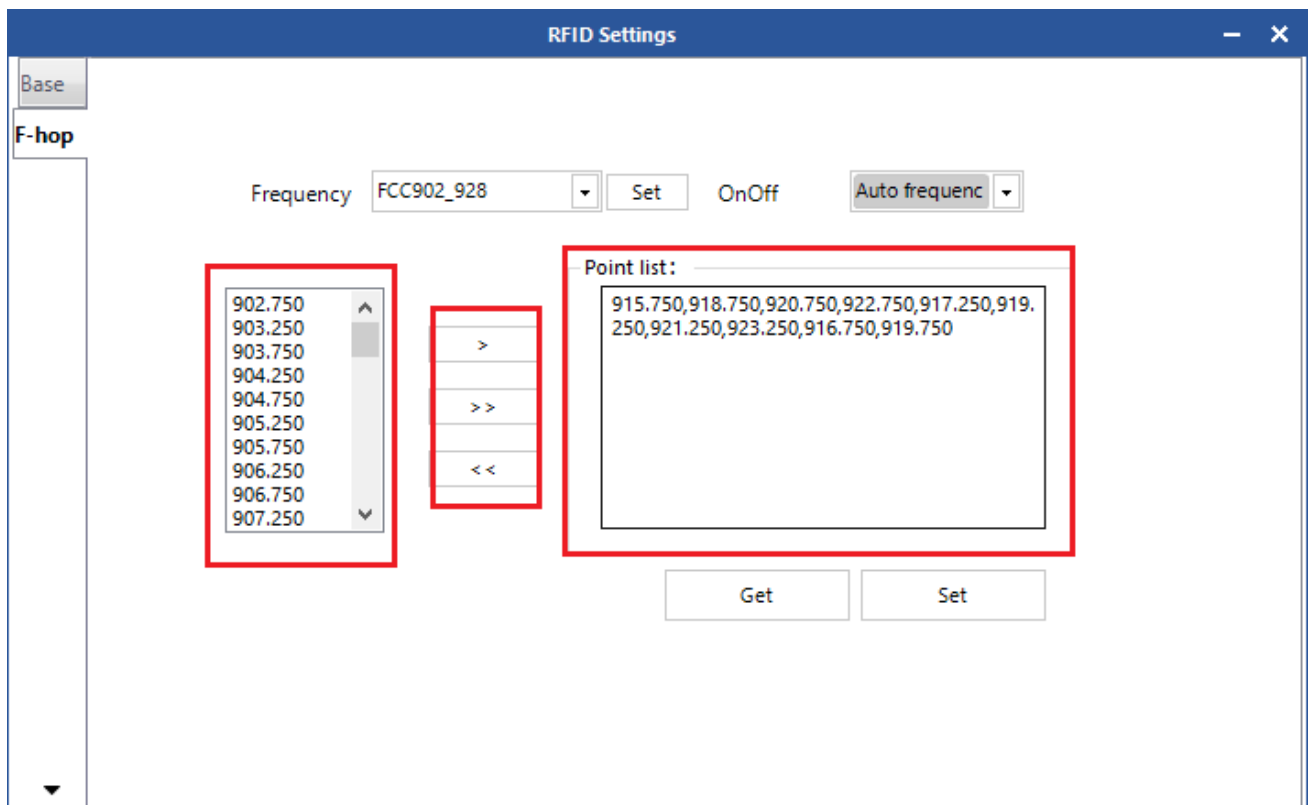

Figure 4.6.5.4 Frequency Selection
**Notes:** When doing this setting, the purpose of the automatic operations is to avoid the external signal interference. Normally it is defaulted to be automatically(as shown in the spinner of Figure 4.6.5.3).